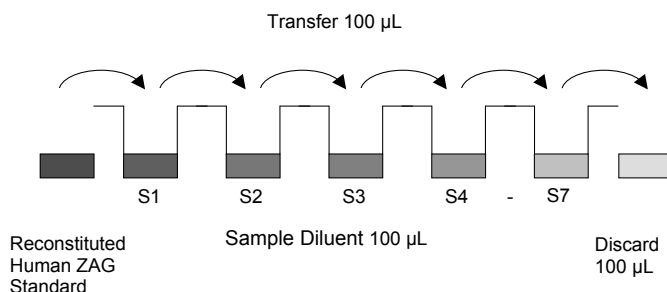

Fig. 7 Dilute standards - microwell plate
4. Standard dilution on the microwell plate (Alternatively the standard dilution can be prepared in tubes - see "External standard dilution" on page 3): Add 100 µL of Sample Diluent in duplicate to all standard wells. Pipette 100 µL of prepared standard (see Preparation of Standard "Human ZAG standard" on page 3, concentration = 30 ng/mL) in duplicate into well A1 and A2 (see Table 1). Mix the contents of wells A1 and A2 by repeated aspiration and ejection (concentration of standard 1, S1 = 15 ng/mL), and transfer 100 µL to wells B1 and B2, respectively (see Figure 7). Take care not to scratch the inner surface of the microwells. Continue this procedure 5 times, creating two rows of human ZAG standard dilutions ranging from 15 to 0.23 ng/mL. Discard 100 µL of the contents from the last microwells (G1, G2) used.